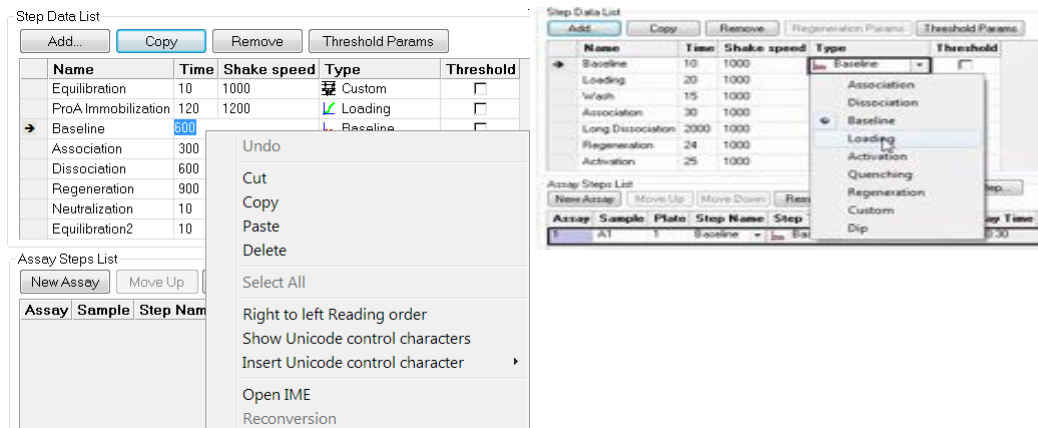

Figure 9-28: Editing a Step Value (left) or Step Type (right)
- Double-click the cell in the step's **Name**, **Time** or **Shake speed** column and then enter a new value. Or, right-click the cell to display a shortcut menu of editing commands (see Figure 9-28, left).
- Click the cell in the step's **Type** column, then select another name from the drop-down list (see Figure 9-28, right).